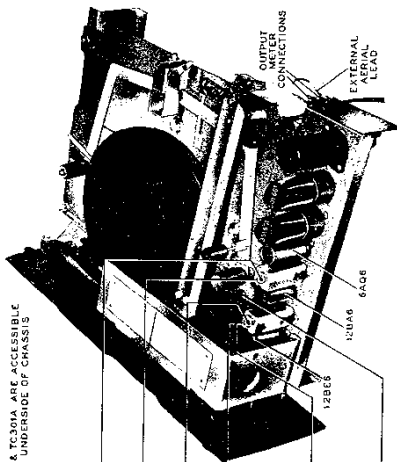

Figure 6. Top View, Showing Trimmer Locations
**RADIO CONTROLS** — Set volume control to maximum, and radio-phonograph switch to radio position. **OUTPUT METER** — Connect to terminals indicated in figure 6.